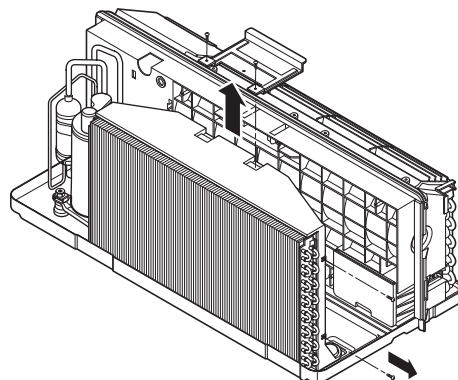

Figure 11
2. Remove the 4 screws which fasten the condenser with the shroud and the basepan. (See Figure 11)